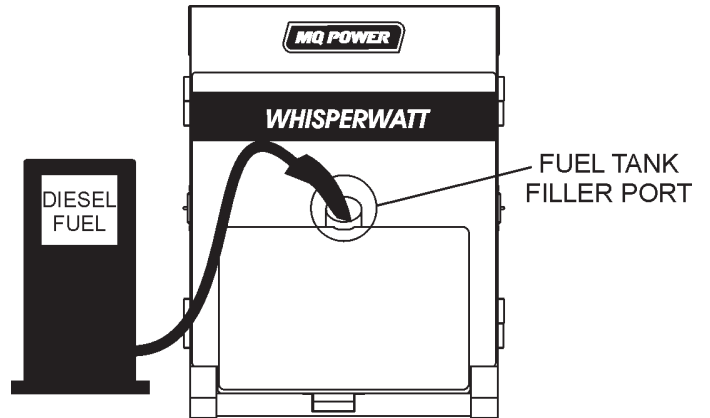

**Figure 32. Only Fill on Level Ground**
1. **Level Tanks** – Make sure fuel cells are level with the ground. Failure to do so will cause fuel to spill from the tank before reaching full capacity (Figure 32).